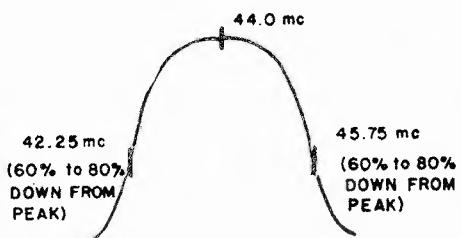

FIG. 9
20. Increase bias voltage to -4.5 volts and adjust the oscilloscope so that 2 inches of vertical deflection is equivalent to approximately 2 volts P-P output. Adjust output of signal generator until a 2 volt P-P indication is obtained on the 'scope. Response curve and marker positions should conform to Fig. 9.
- CAUTION** - No attempt should be made to improve a response curve which conforms to that shown in Fig. 9. Minor deviations may be corrected by slight touch-up of specific coils to make response conform to Fig. 9, as indicated below: